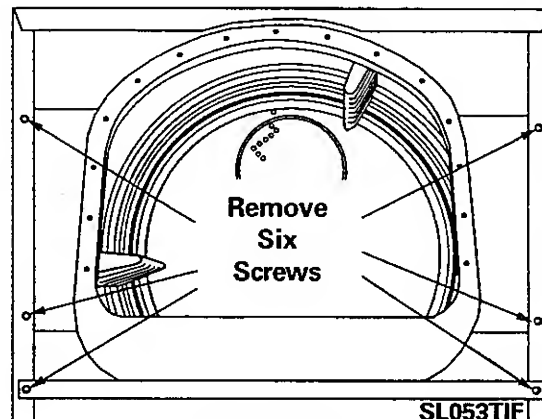

Figure 10-1
4. Remove six outer screws holding shroud and tumbler front assembly to the cabinet (**Figure 10-1**). The inner screws on the shroud will aid in reinstallation of shroud.